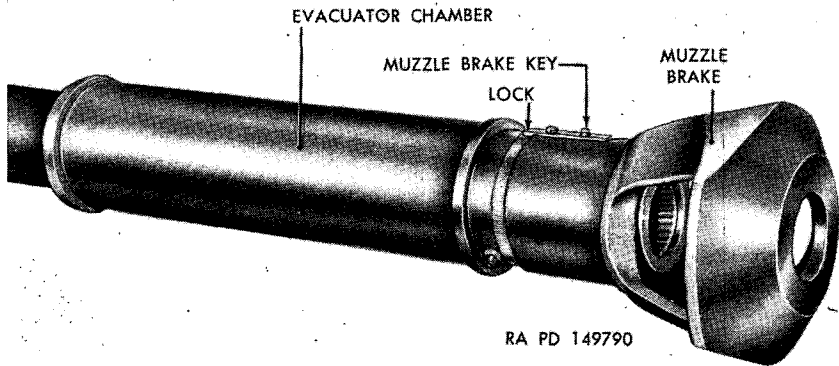

Figure 338. Muzzle end of 90-mm gun T119E1.
- (2) *Muzzle brake.* The gun tube is equipped with a muzzle brake (fig. 338). The high velocity gases following the projectile
- (3) *Evacuator chamber.* The 90-mm gun is equipped with an evacuator chamber (fig. 338) mounted on the gun tube to the rear of the muzzle brake. The function of the evacuator chamber is to offset the objectionable powder gases from accumulating in the fighting compartment. When a round is fired and after the projectile has passed by the evacuator some of the powder gases following the projectile flow into the evacuator chamber creating a high pressure. After the projectile leaves the tube the pressure in the tube drops. Pressure in the evacuator chamber forces the tube gases to
- (1) To disassemble the muzzle brake and evacuator chamber, unscrew the socket head cap screw which fastens the lock and key at the rear end of the muzzle brake (figs. 338 and 339). Remove the lock and key. Pry the outside lug of the key with a screwdriver, if necessary, to free the key.
- (2) Unscrew the muzzle brake from the tube. A bar may be inserted through the ports of the muzzle brake and used as a lever in unscrewing the brake.